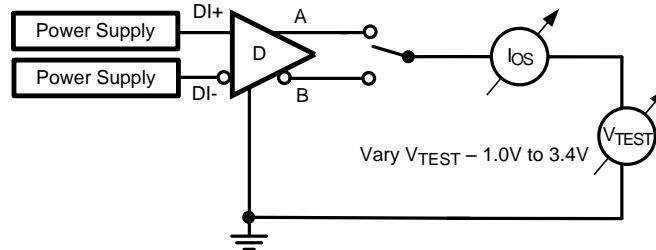

Figure 6. Differential Driver Short-Circuit Test Circuit
| $I_{OS}$                               | Differential short-circuit output current                              | See <a href="#">Figure 6</a> (6)   | -43         |     | 43          | mA    |